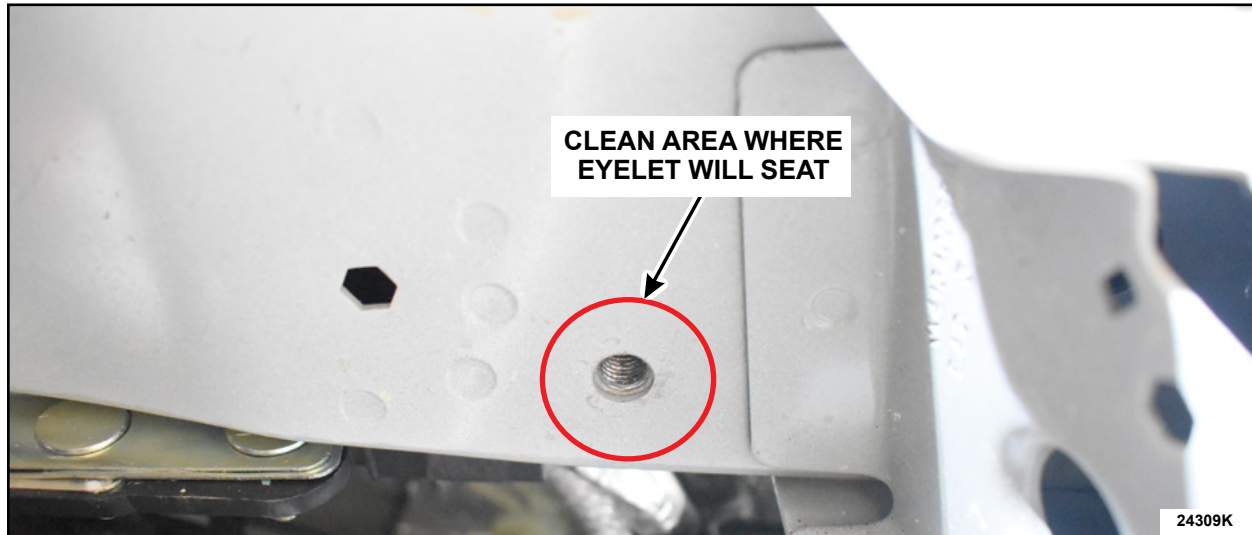

FIGURE 10
13. Clean the body surface where the *new* ground cable eyelet will be re-installed to ensure a complete connection. See Figure 10.